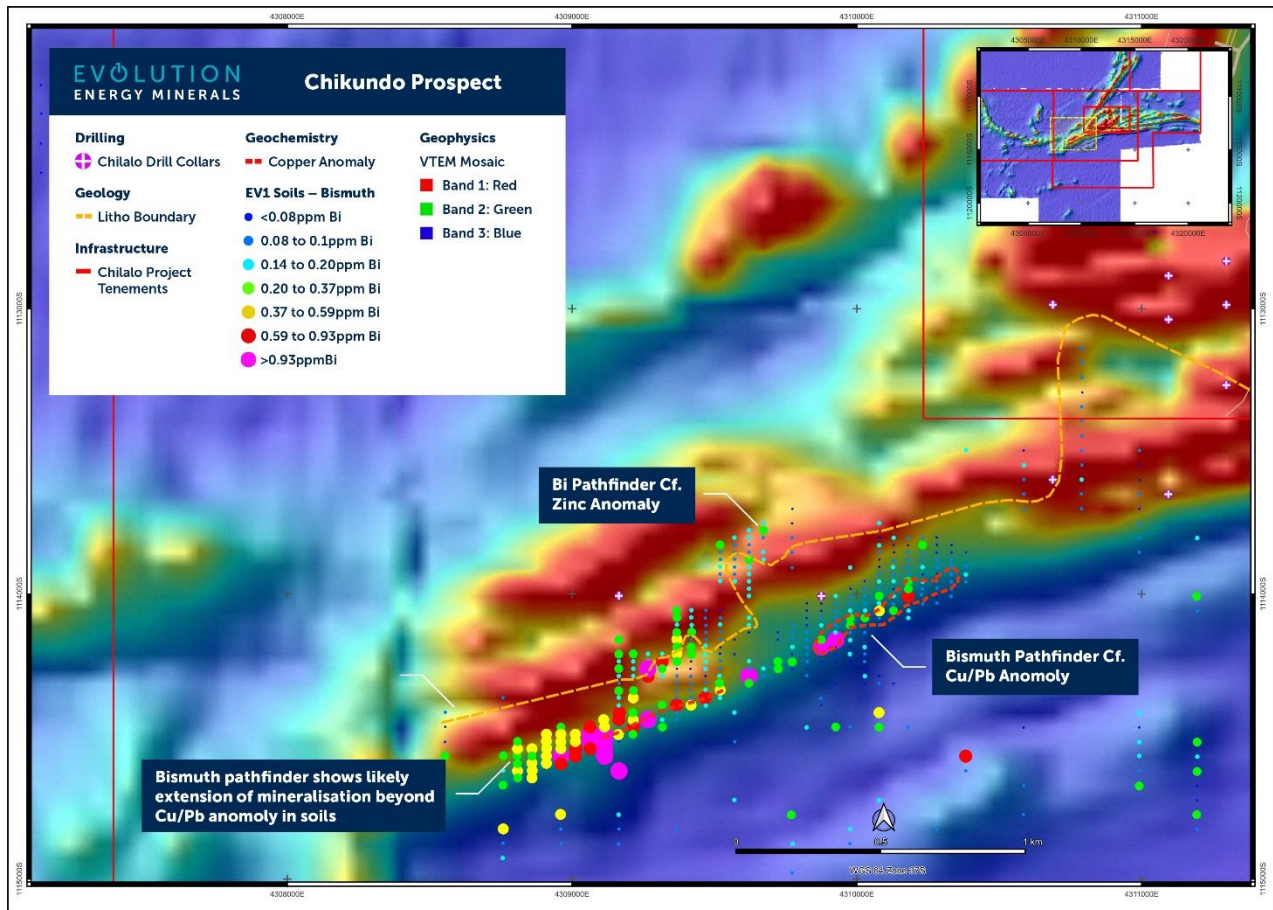

Figure 3: Bismuth Pathfinder indicating the possible extension of the anomaly to the southwest
- Bismuth is shown as an example of a pathfinder anomaly in **Figure 3**. The pathfinder elements indicate that the mineralisation may extend further to the southwest than indicated by copper / lead anomalism.